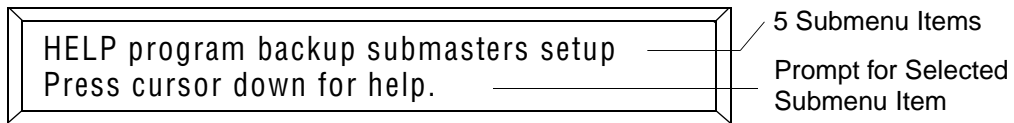

Figure 10. Main Menu
1. Press the MENU key. The LCD windows displays the Main menu showing all the submenus as Figure 10 shows.
Notice that all the submenus are listed only in the top row. The second row provides the prompts or values for the selected submenu item. To select a submenu item from the Main menu, press the **CURSOR** Left or Right Arrow key. The four menu **CURSOR** keys surround the **M E N U** key. Notice that each time you press the **CURSOR** Left or Right Arrow key a different menu item changes. Also notice that the letters in the name of the selected submenu item are capitalized or, in some cases, an item is enclosed in square brackets “[]”. Figure 10 shows **HELP** as the default item and that you press the **CURSOR** Down Arrow to display the help messages. Remember that capital letters, bracketed letters, or numbers indicate *selected* menu item.